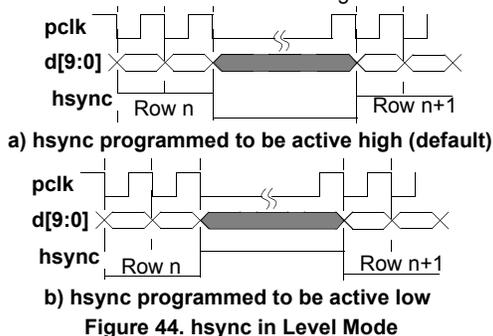

Figure 44. *hsync* in Level Mode
- Level mode** should be used when the pixel clock, *pclk*, is programmed to operate in *free running mode*. In level mode the *hsync* output pin will go to the specified level (high or low) at the start of each row and remain at that level until the last pixel of that row is read out on *d[9:0]* as shown in Figure 44. The *hsync* level is always synchronized to the active edge of *pclk*. The *hsync* pin is put into level mode by setting the *HsyncMode* bit of the *DVBUSCONFIG1* register to a logic 0. The active level of the *hsync* pulse is programmed using the *HsyncPol* bit of the *DVBUSCONFIG1* register.